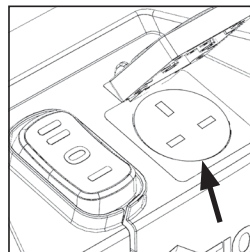

FIG. 1
- Connect the mains plug of the electric power tool to the vacuum cleaner plug socket on the main body. (**Fig. 1**)